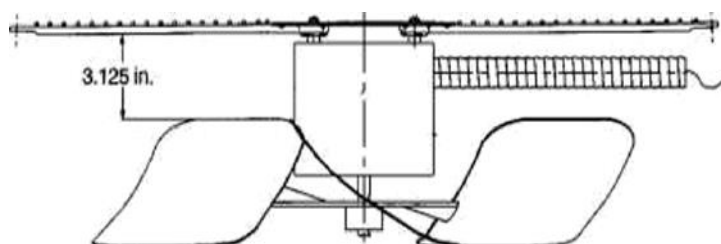

Fig. 1 – Condenser Fan Adjustment
- 3.8.5 Adjust fan height as shown in Fig.1, below.